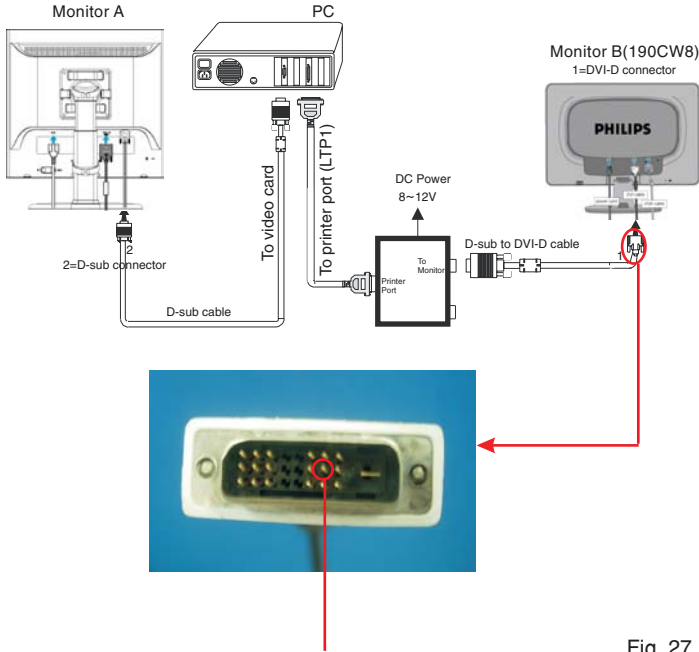

Fig. 27
**Step 1: After initialize alignment box, connecting all cables and box as shown in Fig. 27(Unplug the 15th pin of The DVI cable connecting with monitor).**